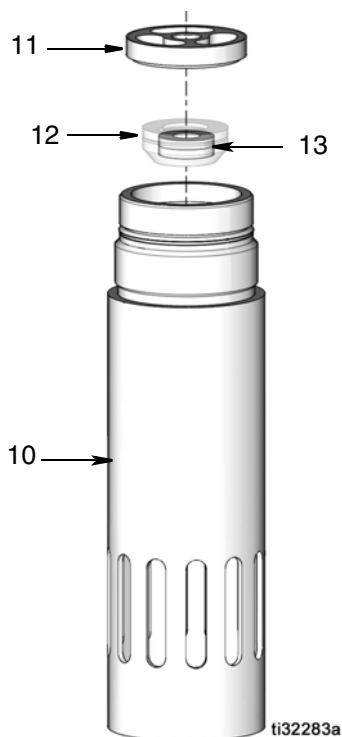

FIG. 5
- Unscrew bearing (11) from foot valve housing. Remove the poppet check (12) and inspect foot valve packings (13) (FIG. 5).